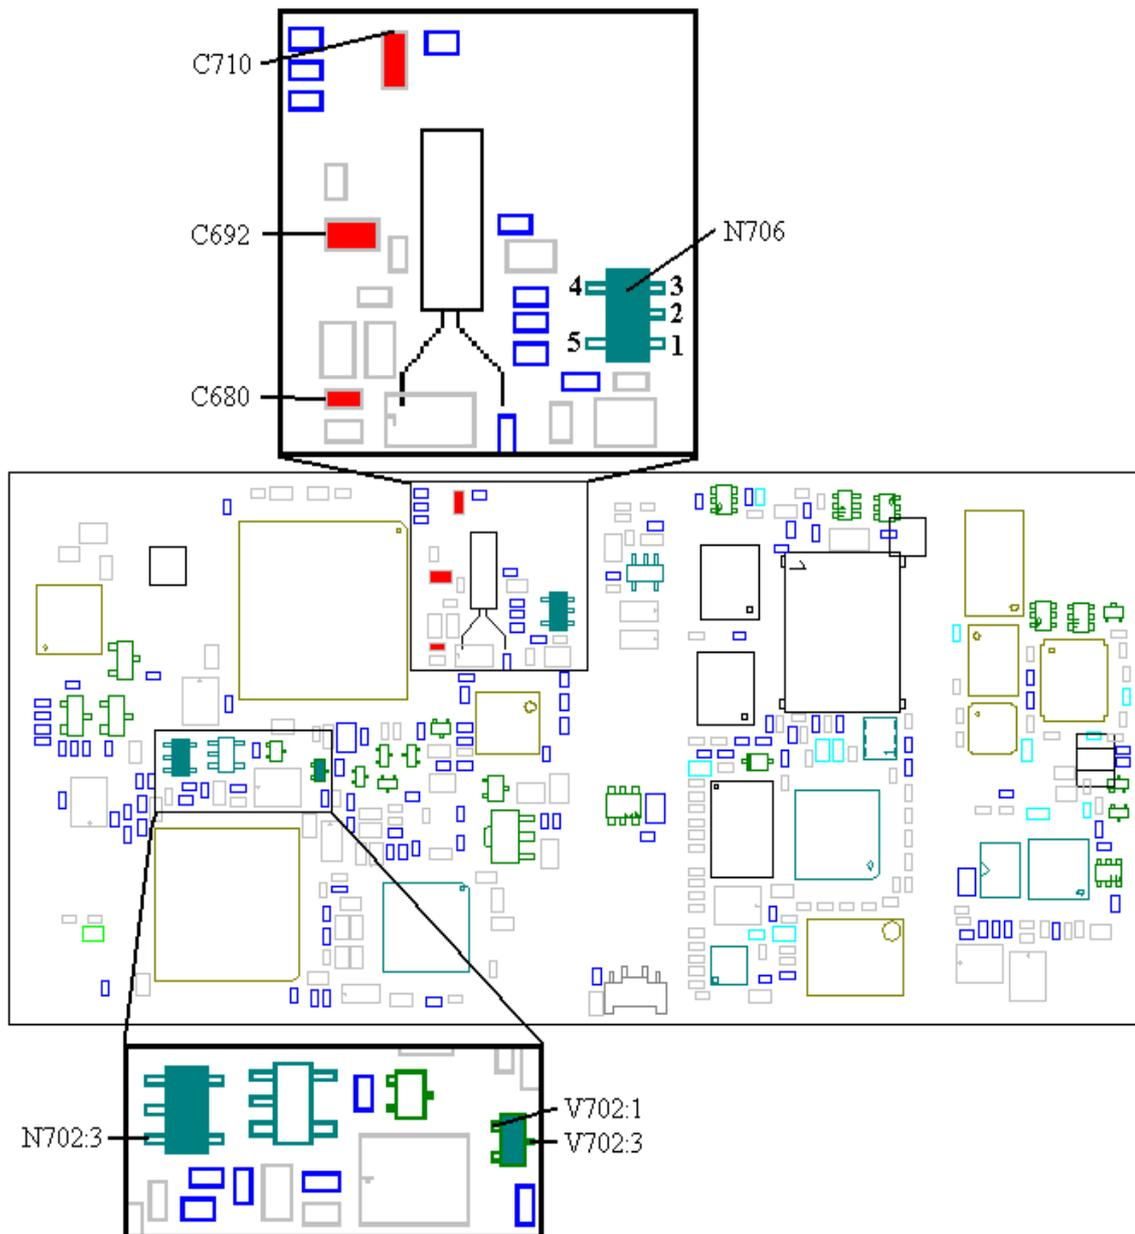
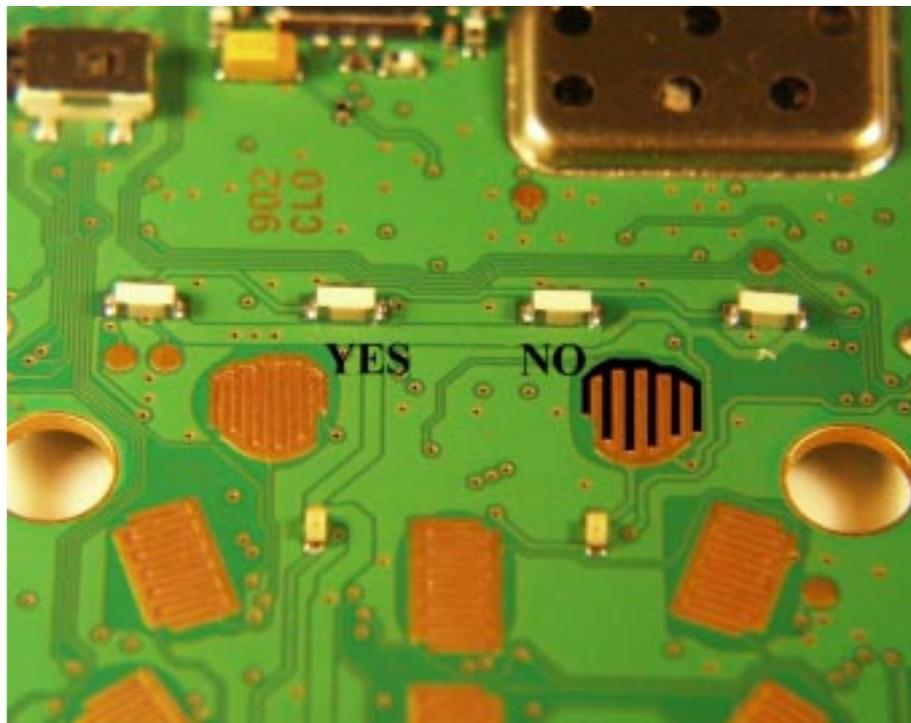

Fig. 3.4
Fig. 3.5
- If there's voltage at all of the regulators, measure the voltage at pin 1 of V702 (~0V, fig. 3.4).
- If the phone still doesn't consume any current, measure the resistance from the marked side of the "No" key (On/Off, fig. 3.5) to pin 1 of V702 (fig. 3.4, ~2.2 kohms).
- * If the resistance is correct, measure the resistance from pin 3 of V702 to pin 3 of N702 (fig. 3.4, ~0 ohms).
- * If the resistance is correct, replace V702 (fig. 3.4, class A).
Measure the voltage at C692 (~3V, fig. 3.4).
- If the voltage is correct, measure the resistance of C692 (>200 kohms, fig. 3.4).
- * If the resistance is correct, check the voltages at N706 (pin 1 – GND, pin2 – VBATT, pin 3 - ~3V output voltage, fig. 3.4).
- * If the voltage is correct, measure the resistance from the positive side of C720 (fig. 3.6) to the marked side of C692 (fig. 3.4, ~0 ohms).
- If the resistances are correct, check the power reset voltage at C710 (fig. 3.4, >3V).
- * If the solderings are correct, measure the amplitude (>0.6V p-p) of the MCLK signal (master clock, 13MHz) at C680 (Fig. 3.4) using an oscilloscope or a diode probe (if possible).
- * If the amplitude is too low, replace C680 (class A, fig. 3.4).